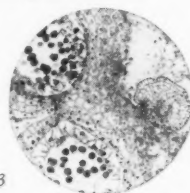

Fig. 3
C. EXPOSURE: Exposure is a matter of experience. If you use the microscope-illuminator set described above, you can use the following information as a guide. The Photomicrograph (see fig. 3), was taken at 100X magnification (10X eyepiece, 10X objective) with three second exposure using Kodak Verichrome Pan film. Our trials showed that one to three second exposures yielded good results. For other magnifications you can use the following rule of thumb as a guide.